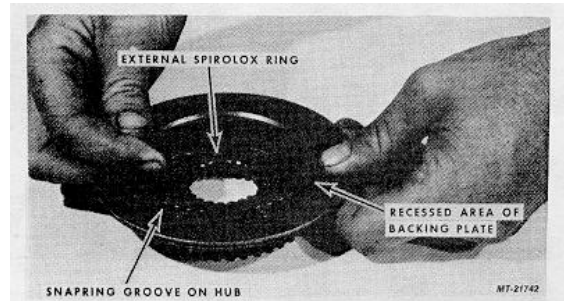

Fig. 50.
13. Install External Spirolox Ring, Fig. 50.